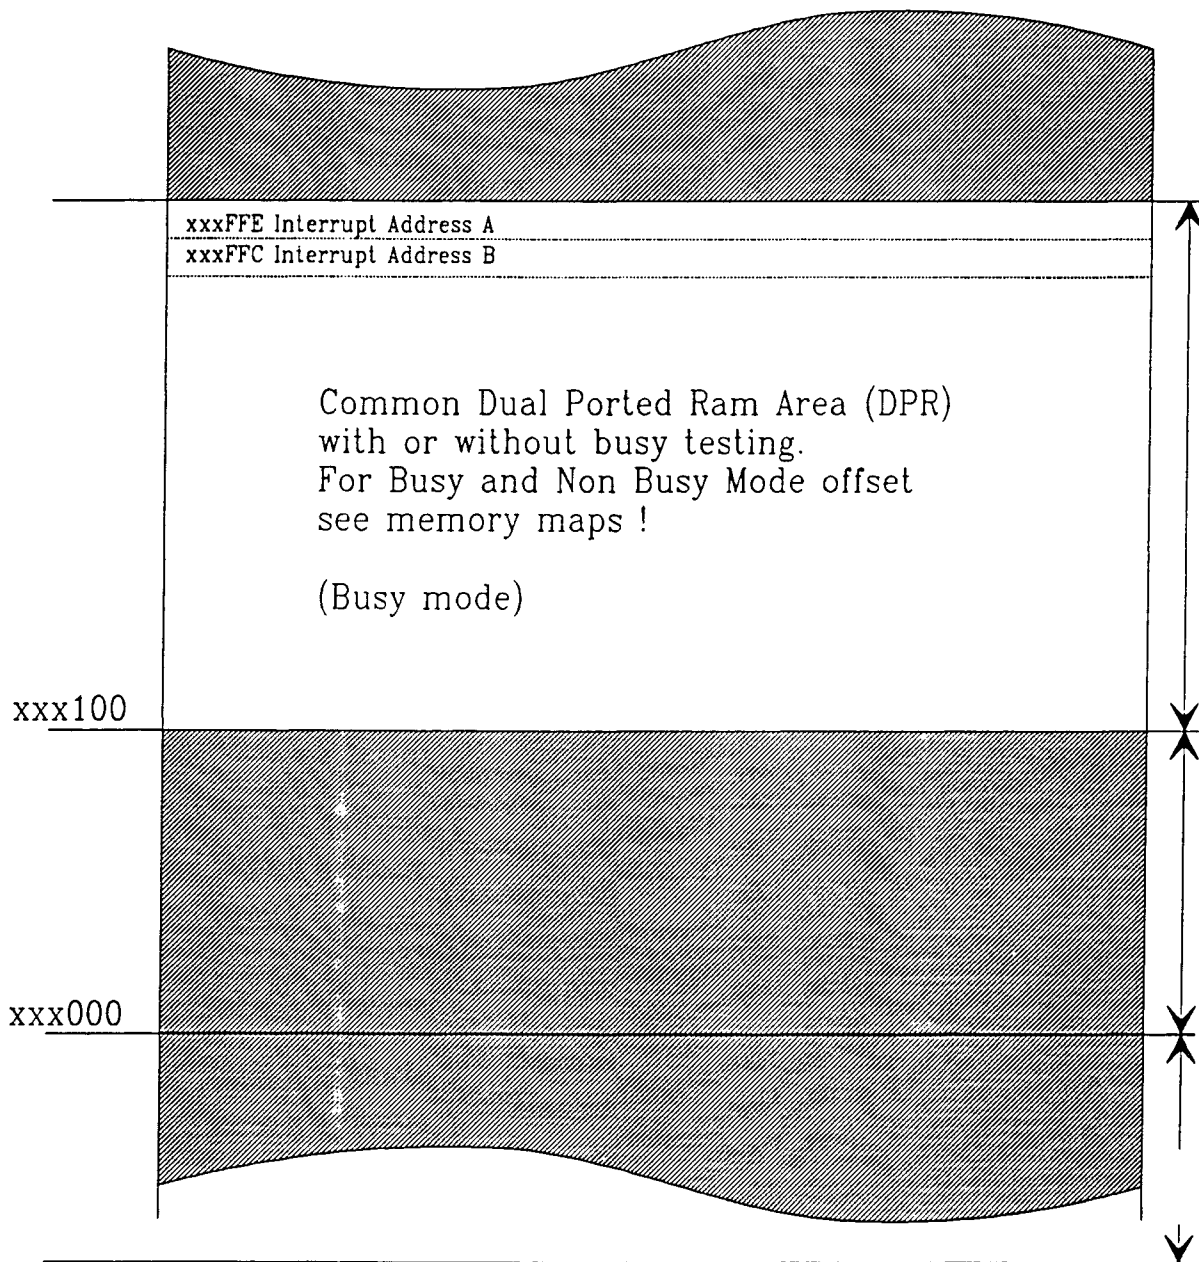

Fig. 4.1.1. Dual Ported Ram Address Map
The **BBK-S4** Adapter uses a Dual Ported Ram (DPR) which is shared by the **SBUS**-server and the T222. The three top addresses (starting at 0xF80hex) are used to control the main communication needs. The top two addresses of the DPR are the Interrupt lines described above. All other addresses of the DPR are protocol dependent. The area below the interrupt lines, the Control Area (CA) controls all data streams on the bi-directional link channel, as e.g. reset, read No. of bytes, write No. of bytes... (see protocol description in chapter 4.2.). Fig 4.1.1. shows the address map of the DPR. The shipped software supports all **BBK-S4** Adapter functions. Also all basic developer's software tools run properly with the board. If, however, one needs direct access to link communication, the well tested and fast functions of **link.o** will suit these needs; also refer to chapter 3.3. Programming a BBK-S4 Link Protocol. The figure on the next page shows the DPR address map. Regard that depending on the address offset two different types of DPR access are possible :
The CA of the DPR includes four 32 byte registers that control all communication regarding the four link buffer L0 to L3. The address offset depends on the slot No. of the host system and also depends on the mode selection desired (see chapter 4.1 Fig. 4.1.1.).